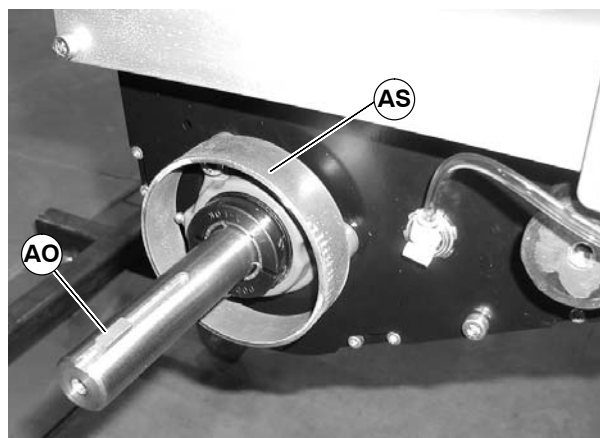

Figure 96
4. Remove spacer ring (AS of Figure 96) and key (AO).